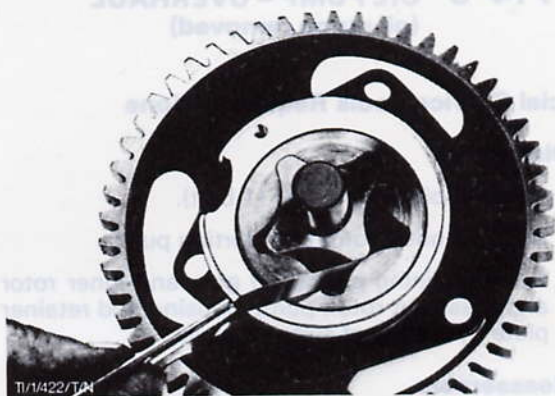

Fig. 172. Measure inner/outer rotor clearance
- (a) Clearance between inner and outer rotor, Fig. 172.